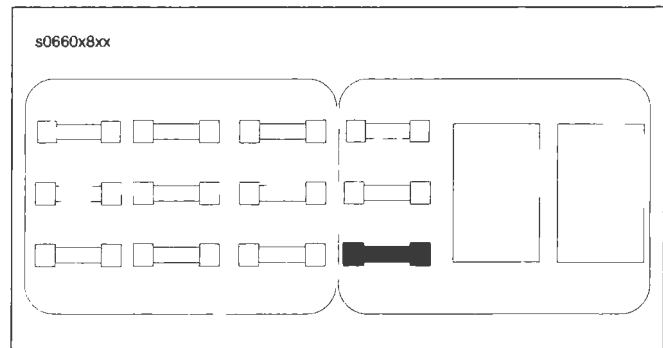

Figure 4-52. Fuel Pump Fuse: View From Top
See Figure 4-52. The fuel pump fuse is located under the seat. The fuel pump can be turned on by applying battery voltage to the fuel pump fuse.
- a. See Figure 4-52. Disconnect the fuel pump fuse from the main wiring harness.
7. See Figure 4-52. Install fuel pump fuse.